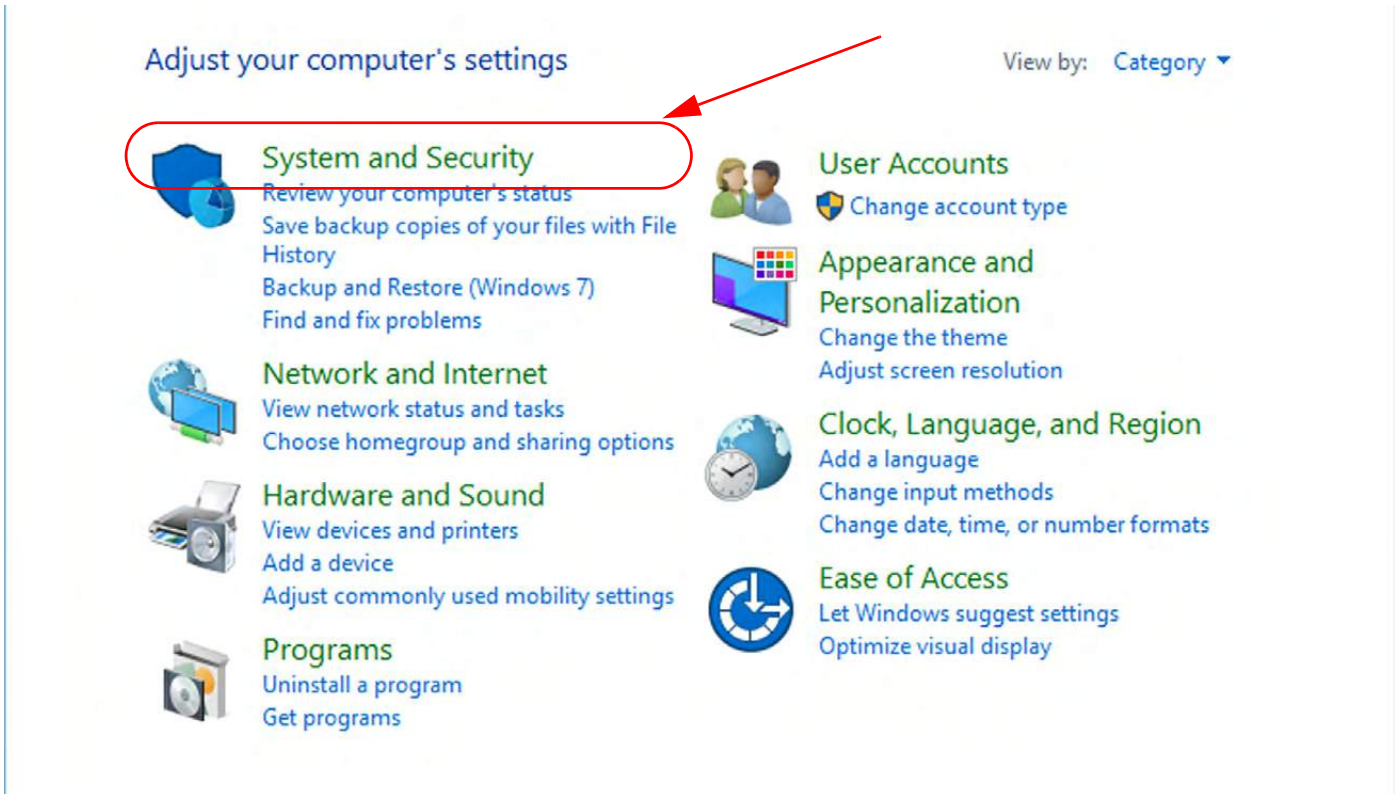

Figure 3.19: Windows 10: Control Panel -> System and Security Screen
2. From the Control Panel, select the “Systems and Security” screen. See Figure 3.19.